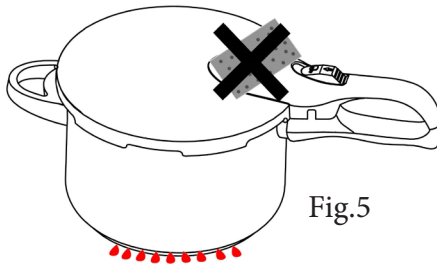

Fig.5
13. It is prohibited to put anything on the pressure-limiting valve (Fig. 5).